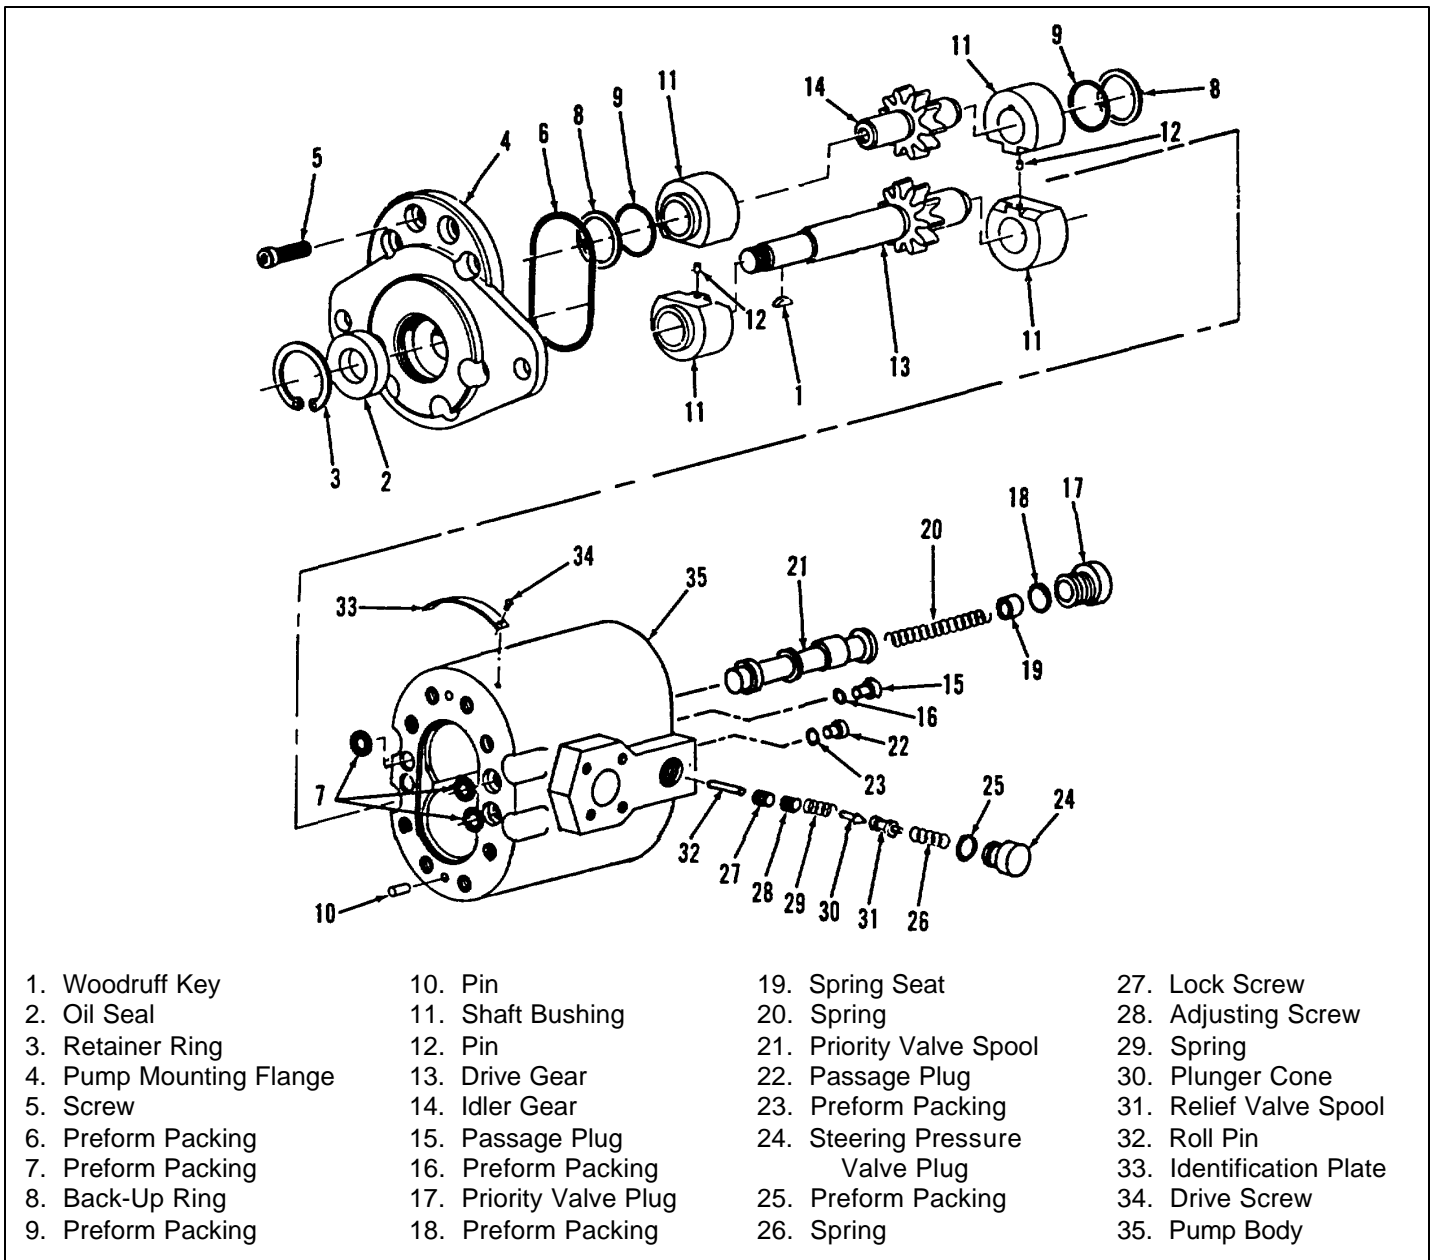

Figure 4-7. Hydraulic Pump Assembly, Exploded View
1. Remove woodruff key (1, figure 4-7) from slot in pump drive gearshaft (13).
2. Remove retaining ring (3), cap screw (5), seal (2) and mounting flange cover (4).